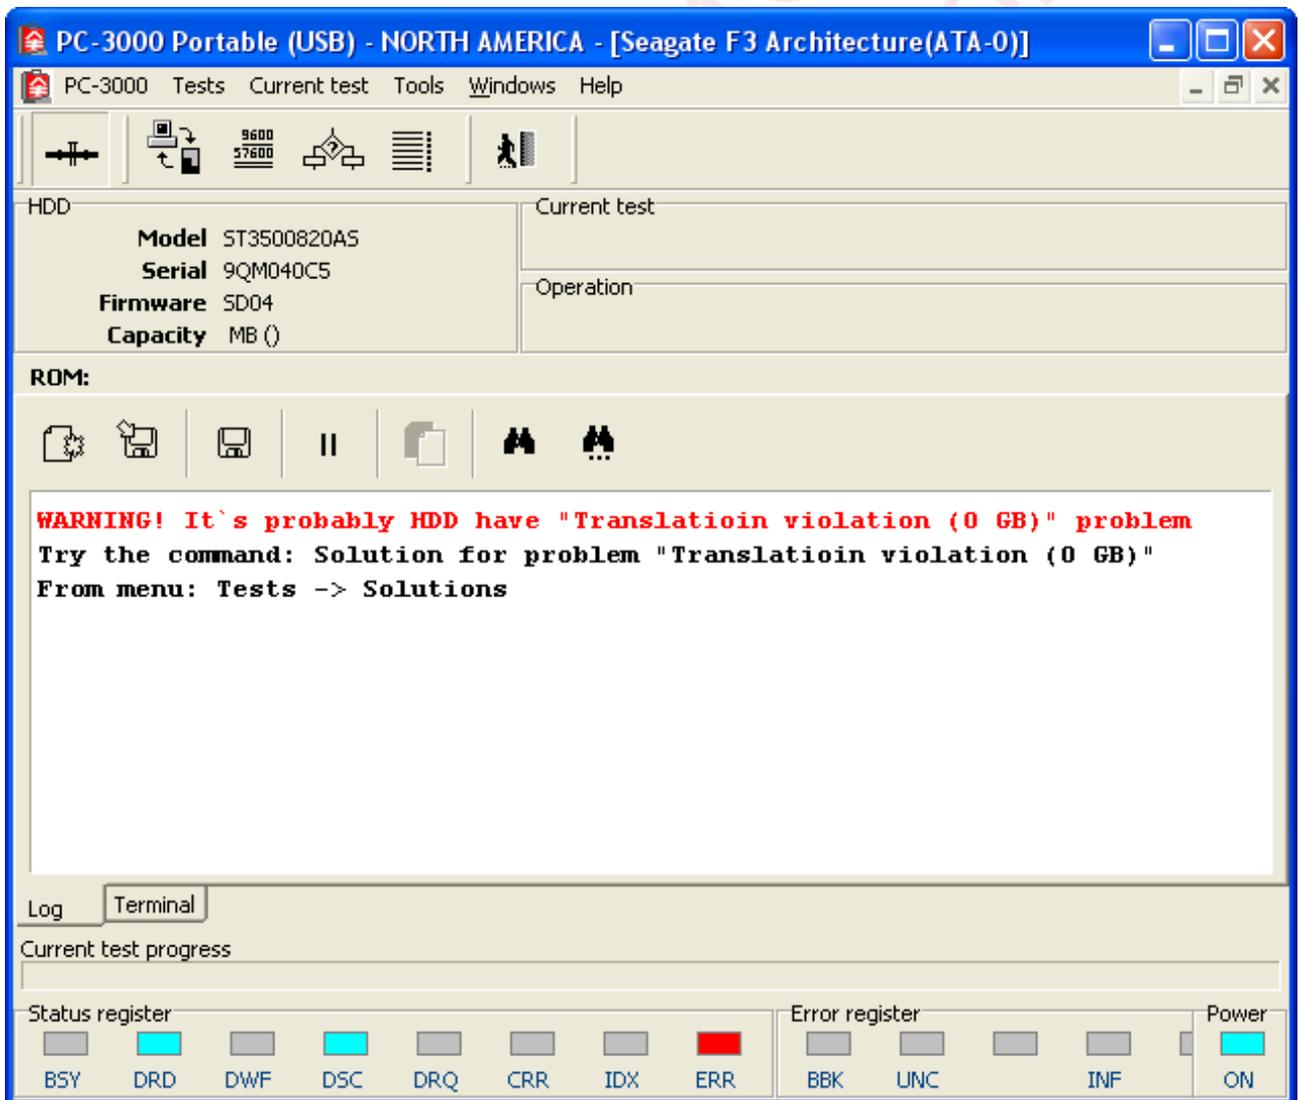

Fig. 6.
**ATTENTION!** When the utility starts, it displays automatically recommendations for repair of HDD-related problems (see examples in Figures 6, 7).